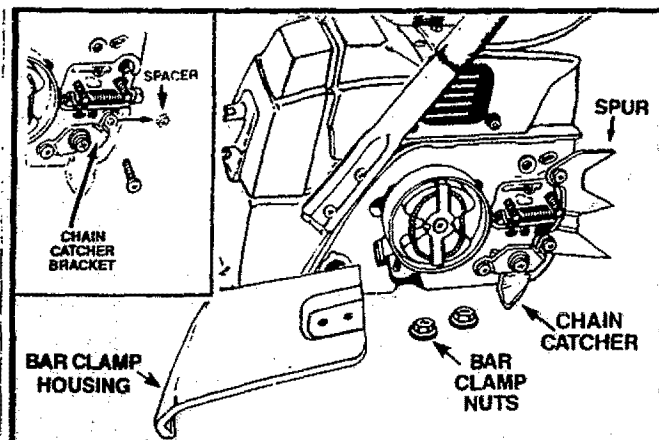

Figure 7
2. Remove the front screw and spacer from the chain catcher bracket. Figure 7 (inset). Discard the spacer.
3. Position the spur over the two holes in the shroud. Figure 7. Make sure the lower screw hole on the spur is positioned *between* the shroud and the chain catcher bracket. Figure 7.